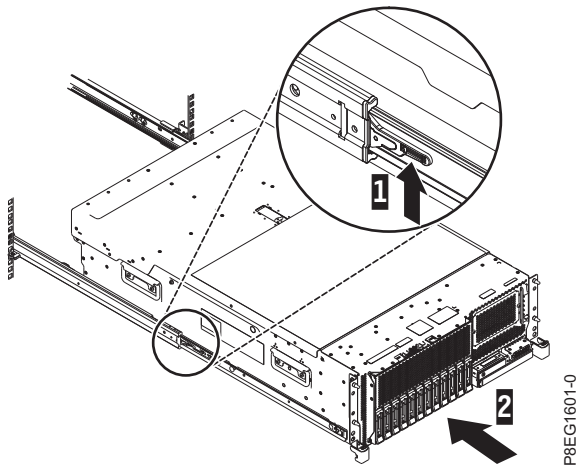

Figure 8. Release latches and server
3. Lift the blue release latches (1) on the slide rails and push the server (2) all the way into the rack until it clicks into place. For details, see Figure 8.